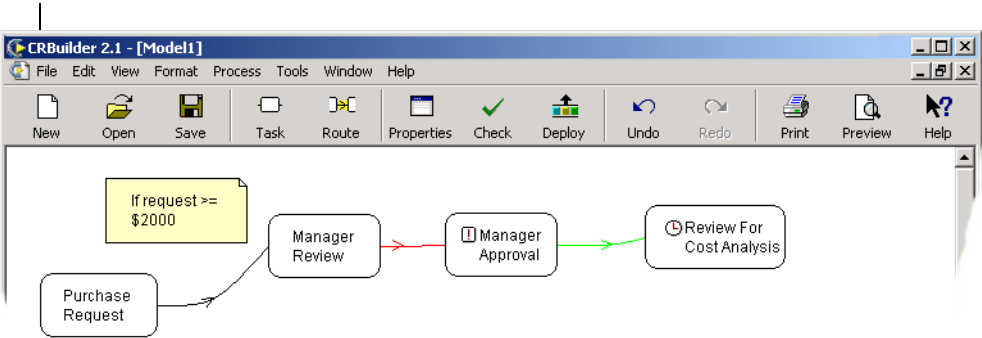

Figure 31-14. A CRbuilder process with new scheduled task.
- ② Type the task name in the **Task Name** field.
- ③ Click either the **Relative Time** radio button or the **Use Data Element** radio button.
- ④ If you selected the **Relative Time** radio button, select a unit of time (e.g., minutes, hours, days, weeks) from the drop-down list. Type the number of units (e.g., 1 week).
- ⑤ If you selected the **Use Data Element** radio button, select the data element you want to use from the drop-down list.
- ⑥ If you want to track the instance ID of this Scheduled Task, type the name of the data element that will hold the Instance ID.
- ⑦ Click **OK**. The Scheduled Task will now appear in your CRbuilder process linked the current task. The clock icon identifies it as a Scheduled Task (see Figure 31-14, below).